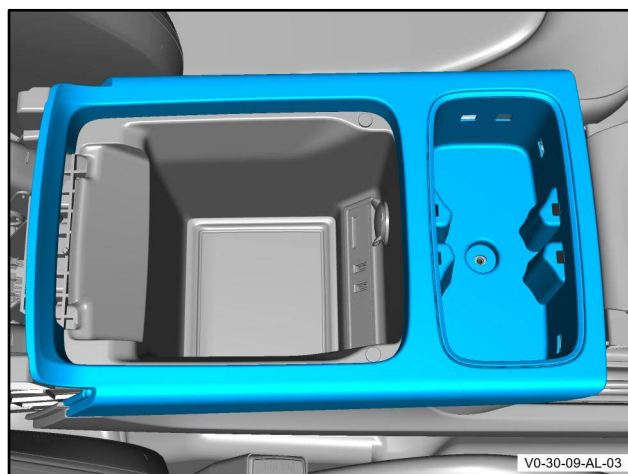

Figure 34
25. Put the cup holder assembly into position to the centre console assembly (refer to Figure 34).